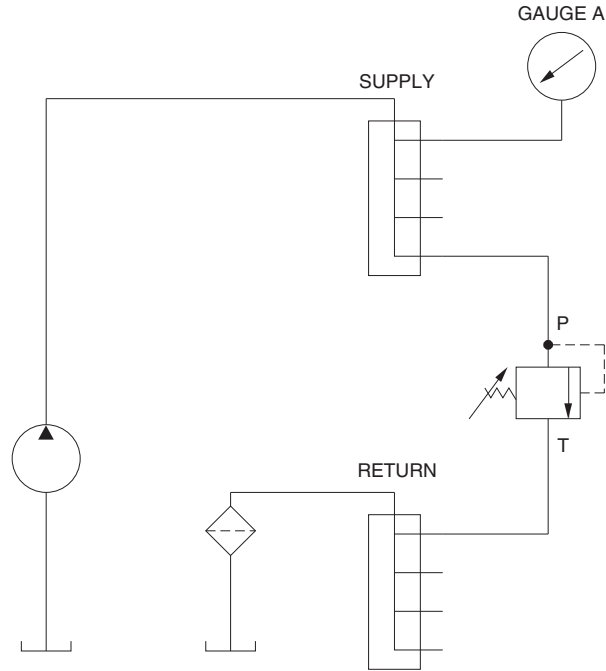
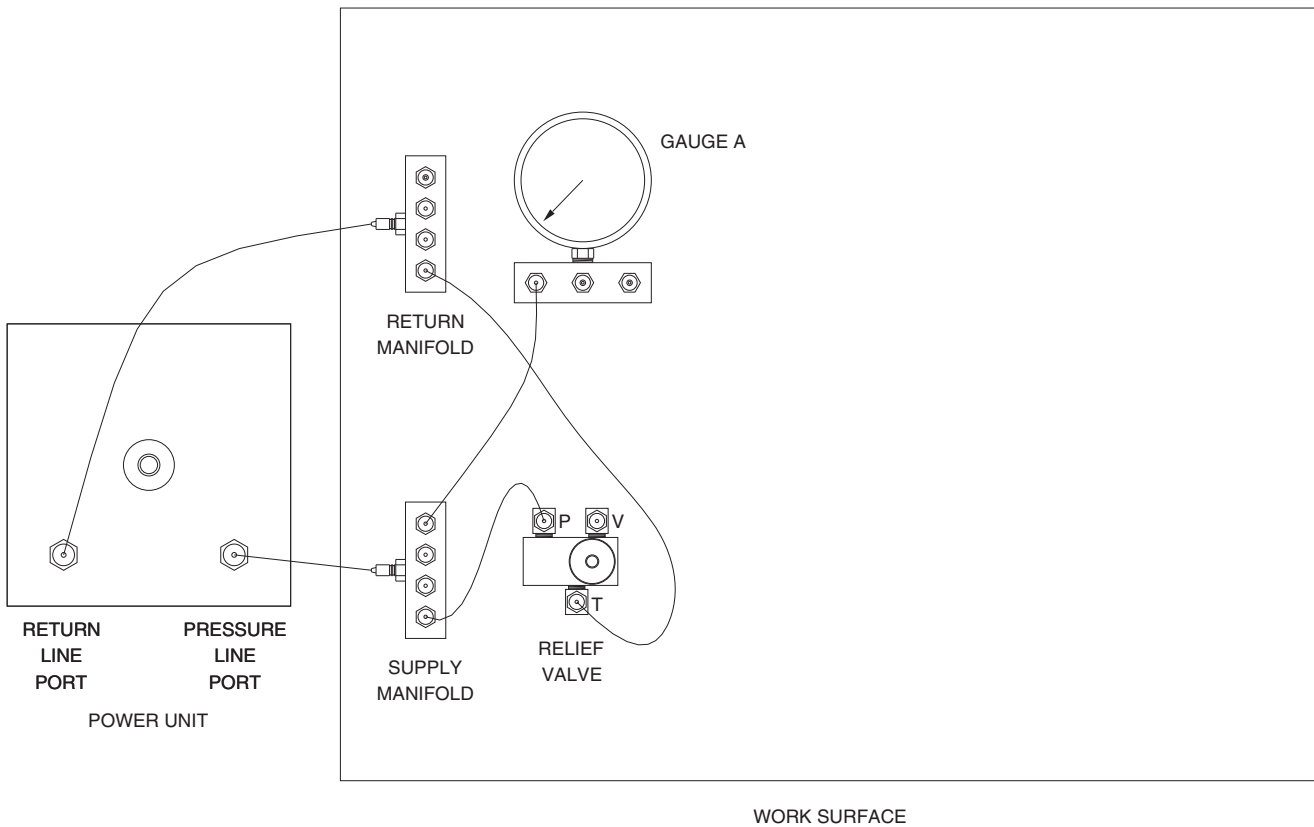

Figure 2-7. Schematic diagram of the circuit for adjusting the Relief Valve.
Figure 2-8. Connection diagram of the circuit for adjusting the Relief Valve.
1. Connect the circuit shown in Figure 2-7. Refer to the connection diagram shown in Figure 2-8 to make your connections.
Note: As Figure 2-7 shows, the vent (V) port of the Relief Valve is unused in this circuit. Therefore, leave this port unconnected.